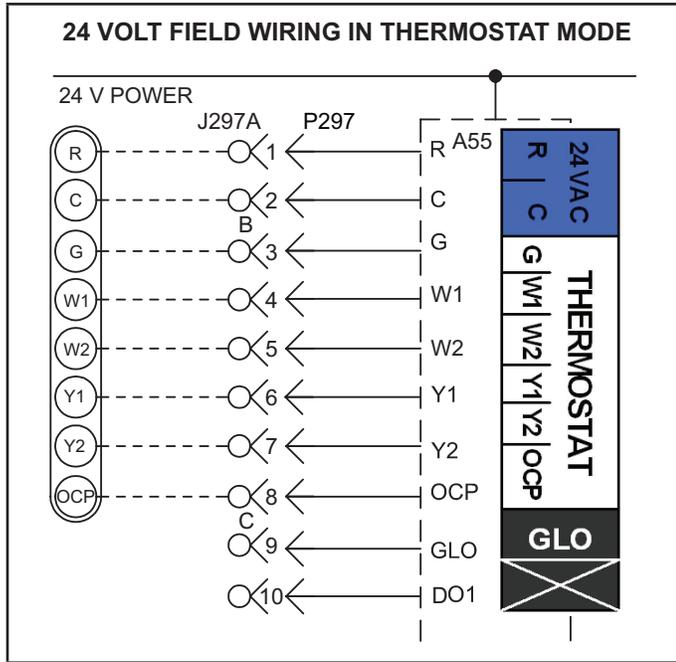

FIGURE 13
- 4 - Wire as shown in FIGURE 13 for electro-mechanical and electronic thermostats. If using other temperature control devices or energy management systems see instructions and wiring diagram provided by manufacturer.
- 2 - Make wiring connections as shown in FIGURE 13 for Thermostat Mode or FIGURE 14 for Zone Sensor Mode. In addition, connect either a humidity sensor or a dehumidification input. See FIGURE 16 or FIGURE 17 for humidity sensor wiring or FIGURE 15 for dehumidification input wiring.